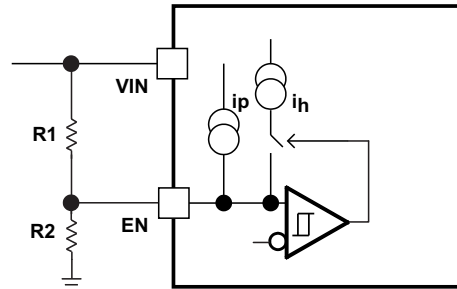
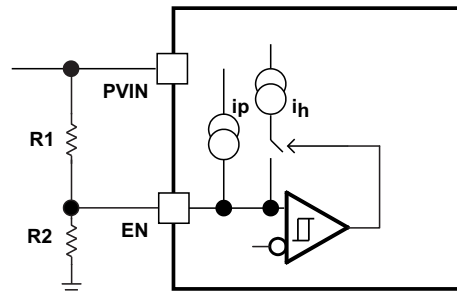
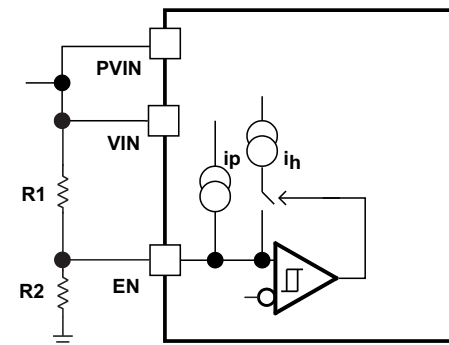

Figure 30. Adjustable VIN Under Voltage Lock Out
Figure 31. Adjustable PVIN Under Voltage Lock Out,  $V_{IN} \geq 4.5V$
Figure 32. Adjustable VIN and PVIN Under Voltage Lock Out
If an application requires either a higher UVLO threshold on the VIN pin, or a secondary UVLO on the PVIN pin in split-rail applications, then the EN pin can be configured as shown in Figure 30, Figure 31, or Figure 32. When using the external UVLO function, it is recommended to set the hysteresis to be greater than 500 mV.
• Deleted device name from <a href="#">Figure 30</a> , <a href="#">Figure 31</a> , and <a href="#">Figure 32</a> (typo) .....	18